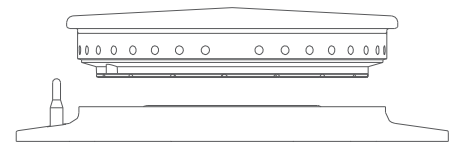

Figure 8 – Brass burner head and Bezel
1. Remove brass burner head and aluminium bezel by lifting upward. **(Figs 8,12)**.
Stubborn debris lodged in ports (*See Figure 8*) can be removed using a non-metallic implement (*ie. cocktail stick*). The slots in base should be freed of debris using a soft brush. Dry burner with a lint-free cloth and blow through ports to ensure there is no blockage